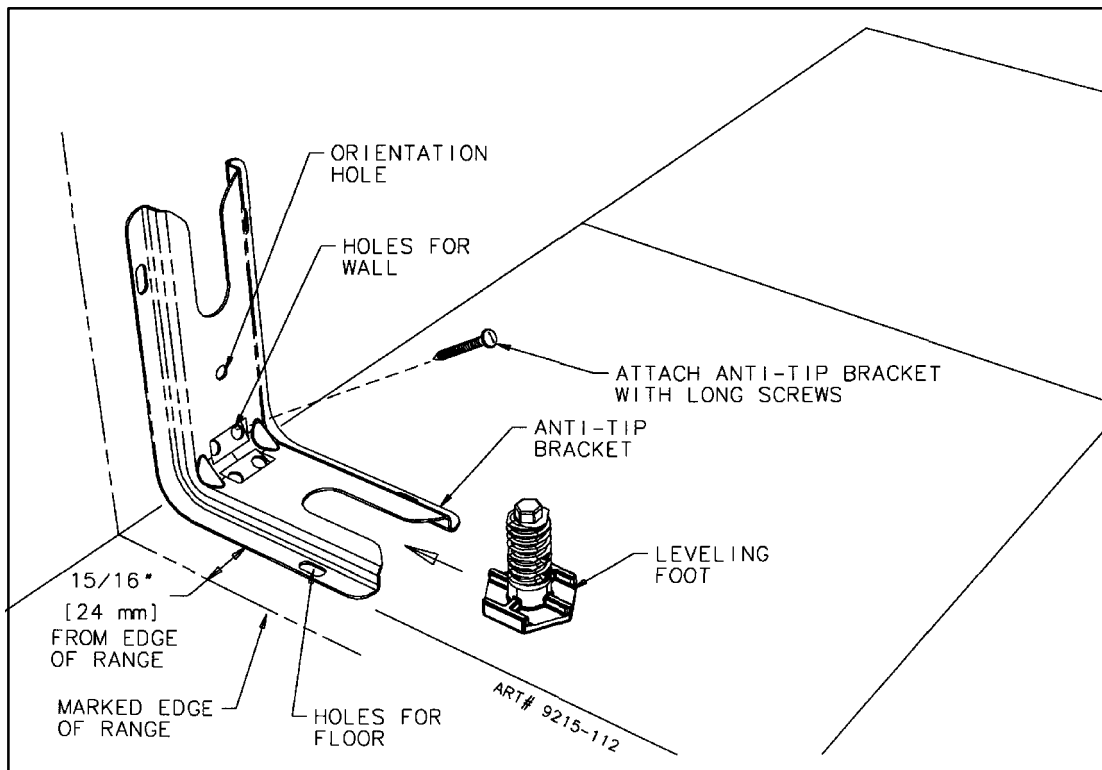
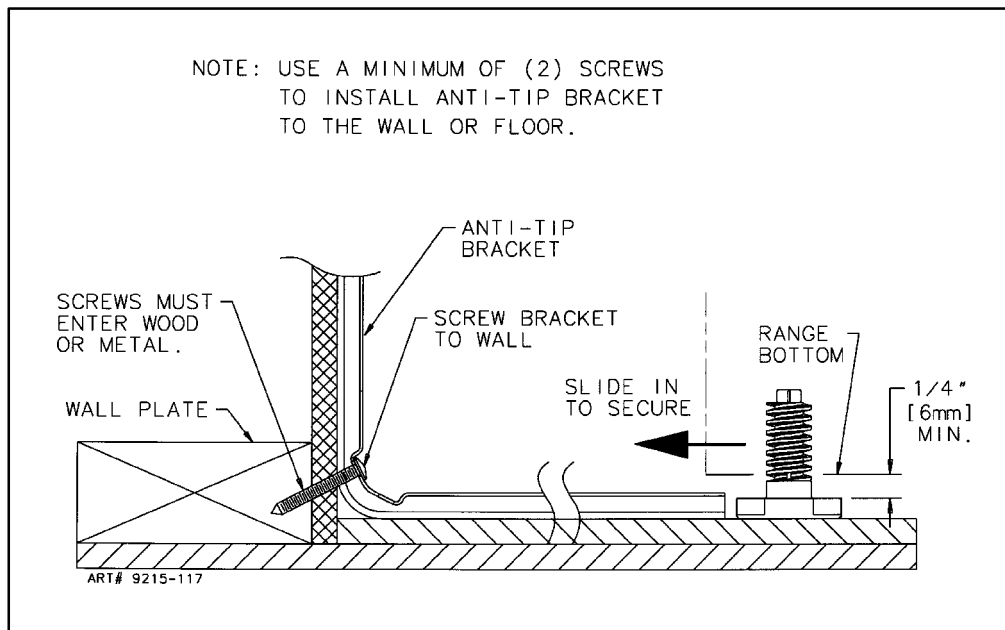

FIGURE 5
FIGURE 6
Install the bracket with the orientation hole in the longer leg against the wall as shown in figure 5.
STEP 1 - Locating The Anti-tip Bracket (See Figure 5)
- B. Place the BRACKET 15/16" (24mm) from the marked "EDGE" toward center of opening and against the back wall as shown in figure 5, with orientation hole against wall.
- C. Use the bracket as a template and mark the required holes, as shown in figure 5, for the type of construction you will be using.
1. Floor: Locate the center of the two holes identified in figure 5 as "HOLES FOR FLOOR." Drill a 1/8" (3 mm) pilot hole in the center of each hole (a nail or awl may be used if a drill is not available). Secure the ANTI-TIP bracket to the floor with the two screws provided. Proceed to STEP 3.
2. Wall: Locate the center of the two holes identified in figure 5 as "HOLES FOR WALL." Drill an angled 1/8" (3 mm) pilot hole in the center of each hole as shown in figure 6. (A nail or awl may be used if a drill is not available). Secure the ANTI-TIP bracket to the wall with the two screws provided as shown in figure 6. Proceed to STEP 3.
1. Suitable screws for concrete construction can be obtained at the hardware store. Drill the required size hole for the hardware obtained into the concrete at the center of the holes identified in figure 5 as "HOLES FOR FLOOR". Secure the ANTI-TIP bracket to the floor. Proceed to STEP 3.
- B. Align the range to its designated location and slide it back into position. Note: A minimum clearance of 1/4" (6 mm) is required between the range and the leveling foot that will engage the ANTI-TIP bracket, see figure 6.